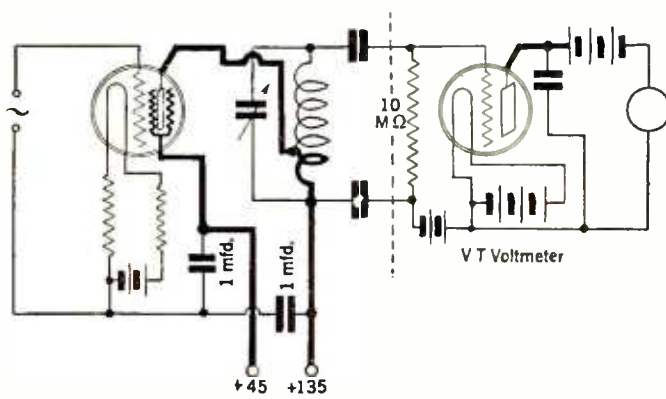
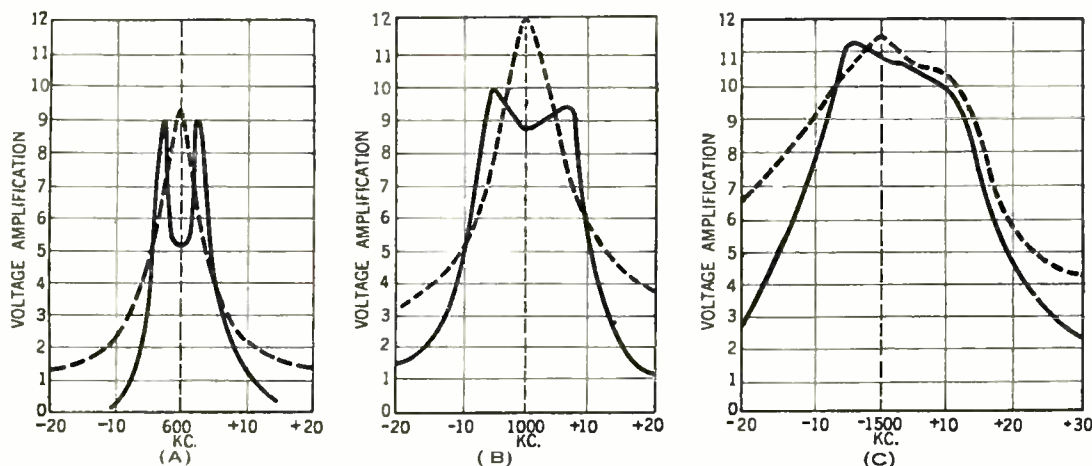

FIG. 7
FIG. 6
plished by disconnecting the primary condenser, C_1 , and tuning the secondary to resonance with the desired wave, then disconnecting the secondary condenser, C_2 , and tuning the primary. It was necessary to use a strong signal from the oscillator while tuning in this manner as the transfer from one coil to the other was very low. After tuning each circuit independently, both condensers were connected and the curve for a particular frequency measured. These curves were taken at 600, 1000, and 1500 kc., and are shown in the full lines of Fig. 6. It will be noted that they check very well with the theory of the circuit, for in the 600 kc. curve Fig. 6A, we have the two resonant humps lying very close to 3 kc. off resonance on either side while in the 1000 kc. curve, Fig. 6B, they are 5 kc. off the normal resonance of the individual circuits. The 1500 kc. curve did not turn out as well, although the separate resonances can still be distinguished. It will be noted that the curve at 1000 kc. compares very favorably with the ideal curve as the amplification varies very little in the 5 kc. pass band either side of the carrier. Attention is called to the variation with frequency in the width of the band passed in the three curves, which was predicted in equation (1) to which we will refer later.
In order to compare the shapes of the band curves of Fig. 6 with the performance that would be obtained when using the same tube, coupling, and coils in Fig. 7, the secondary circuit was removed and the measurement repeated with the single circuit shown in Fig. 7. These curves are plotted in dotted lines in Fig. 6 so they may be compared with the band-pass filter performance. It will be noted that at each measured frequency the selectivity of the band circuit is greater than the ordinary resonant circuit and that the amplification is about on a par, one with the other.
Other curves were checked using the whole primary coil for coupling to the tube. It was found that the curve shapes remained substantially the same as shown in the full lines of Fig. 6, but the amplification went up to an average of 30 per stage.
The dotted curves in Fig. 6 were taken with this circuit, which is an auto-transformer in which part of the coil is used as primary and all of it as secondary.